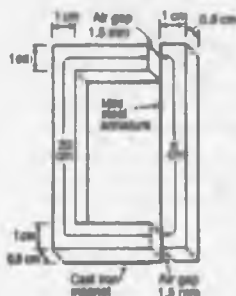

Figure 7.8
- 6 Figure 7.8 shows the magnetic circuit of a relay. When each of the air gaps are 1.5 mm wide find the m.m.f. required to produce a flux density of 0.75 T in the air gaps. Use the B-H curves shown on page 71. [2970 A]